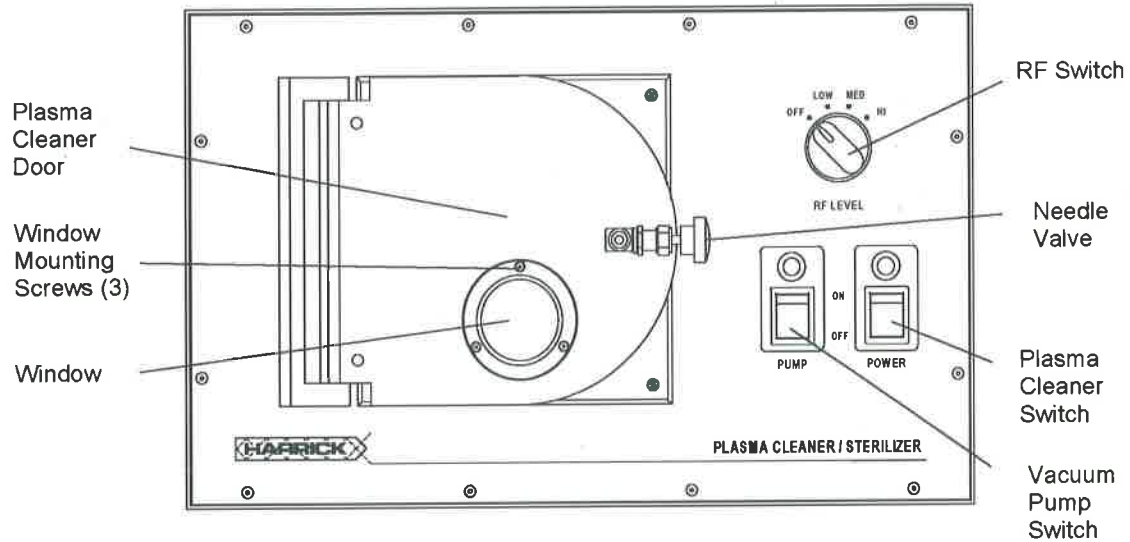

Figure 1 • Plasma Cleaner Front View
Before starting, take a few moments to familiarize yourself with the Plasma Cleaner by looking at the drawings of the front and back of the unit (Figures 1, 2).
- Turn on the vacuum pump switch on the front of the Plasma Cleaner (Figure 1). It will take a few minutes to evacuate the air in the Plasma Cleaner chamber.
- Turn on the Plasma Cleaner switch on the front of the Plasma Cleaner (Figure 1).
- Connect the needle valve on the Plasma Cleaner door (Figure 1) to the gas source through a pressure regulator.
- Turn on the vacuum pump switch on the front of the Plasma Cleaner (Figure 1). It will take a few minutes to evacuate the air from the reaction chamber of the Plasma Cleaner.